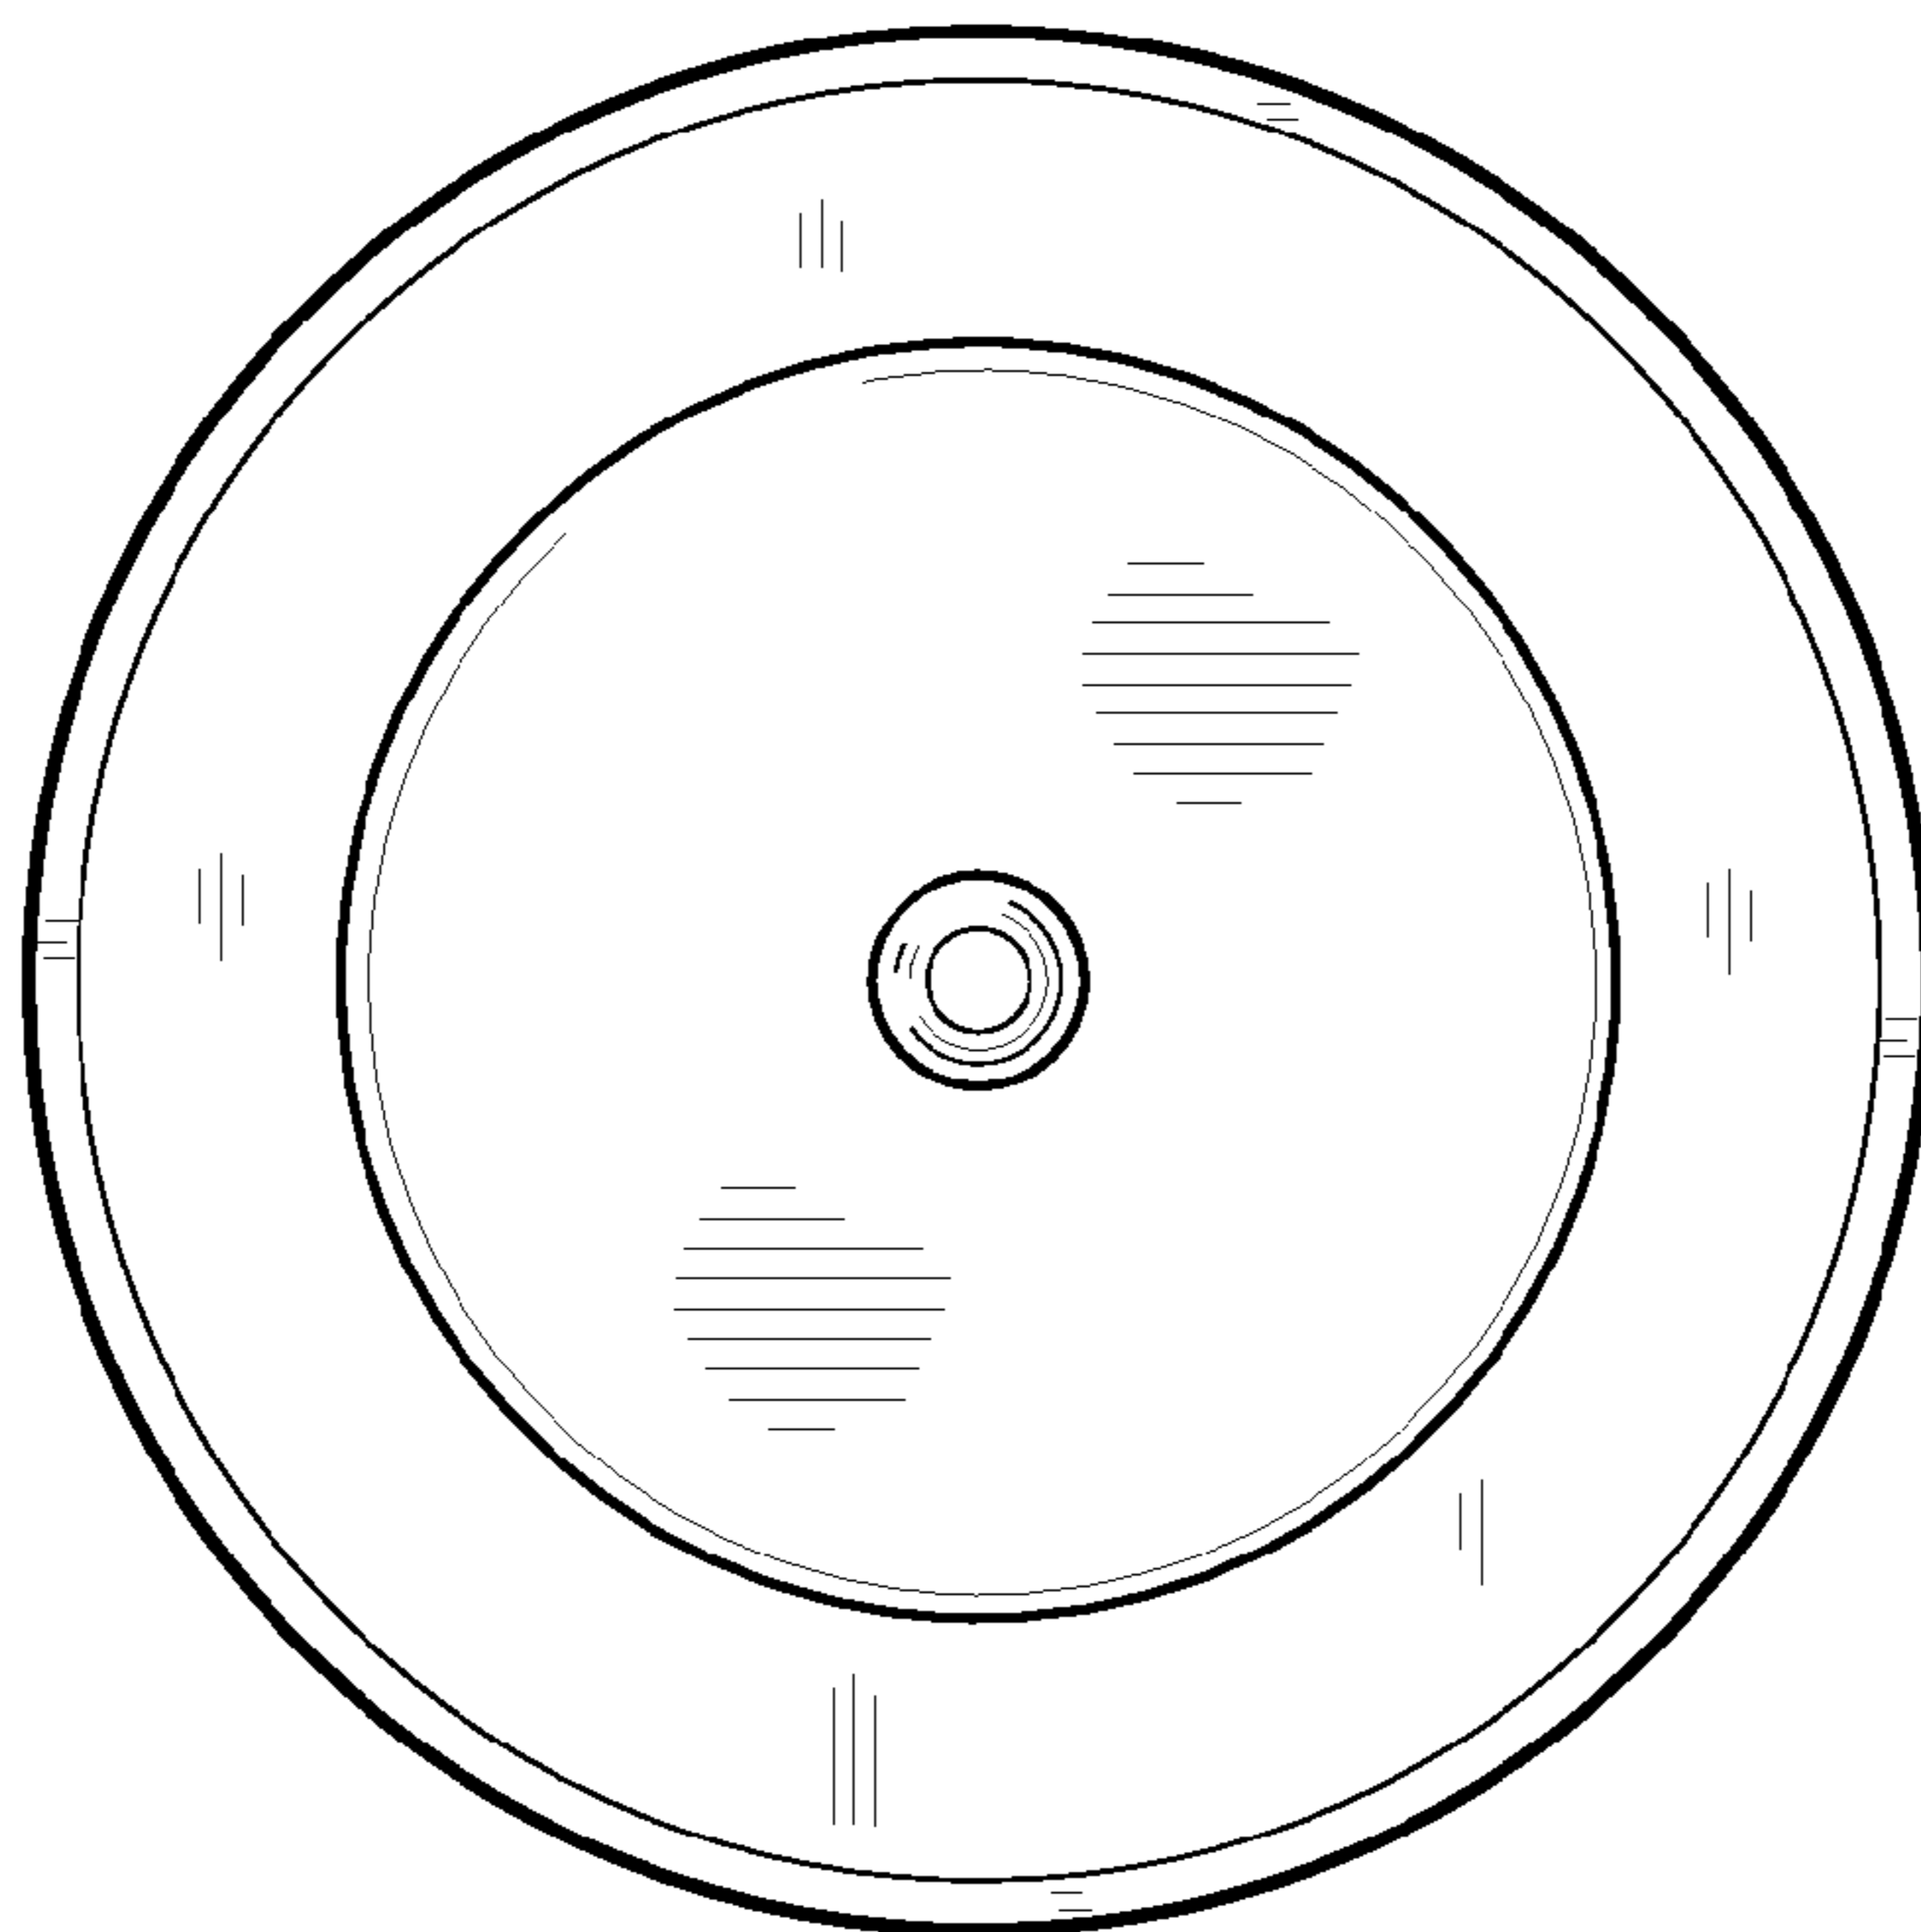

FIG. 2
- FIG. 2 is a plan view showing the lighting fixture from the bottom;